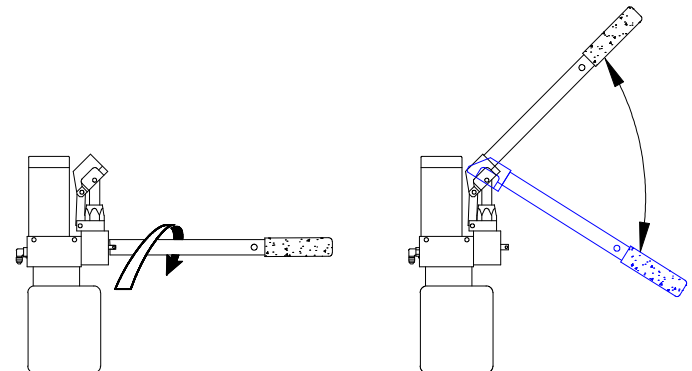

FIGURE 2-12: CLOCKWISE CLOSES RELEASE VALVE
- 1) Refer to **Figure 2-12**. Engage hydraulic system pressure release valve with notched end of pump handle, and rotate valve clockwise (turn lightly) to verify that it is closed (valve should have been closed previously).
- 2) Refer back to **Figure 2-12**. Insert pump handle into socket on backup pump, and then pump handle until platform rises to vehicle floor height.